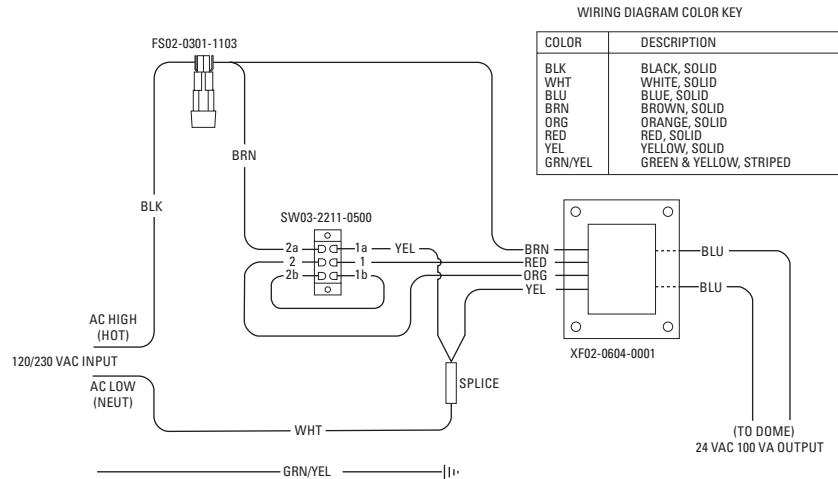

Figure 3. IWM24 Wiring
1. Connect the power to the transformer (refer to Figure 3).